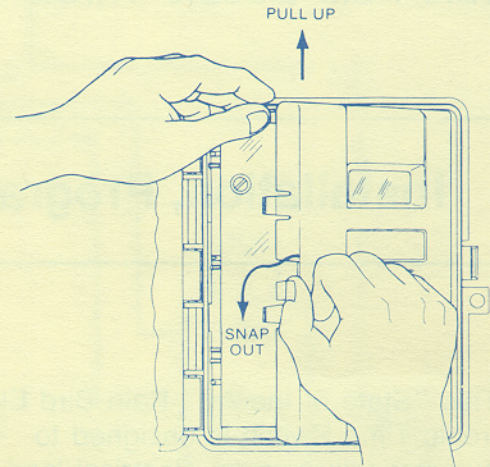

Fig. 1
2. **Remove Time Switch Control Panel from Case:** (See Fig. 1). Open door, unplug wire harness connector and snap out control panel.